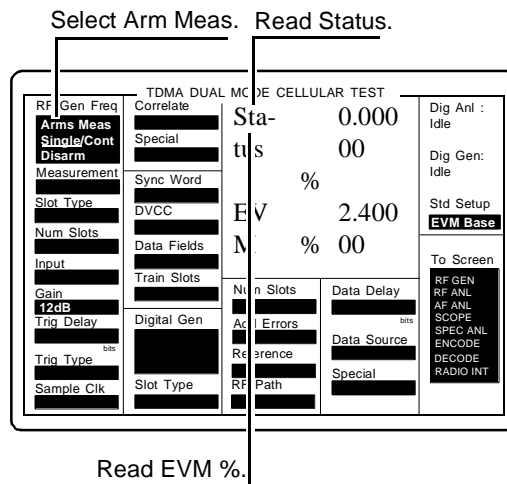

Figure 59 TDMA DUAL MODE CELLULAR TEST Screen
Step 4. Make the measurement (see figure 59).